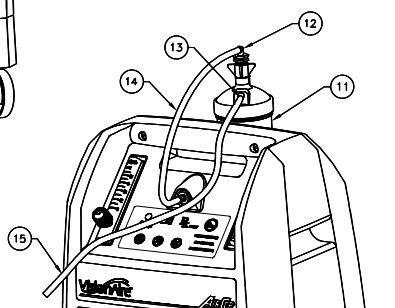

Fig. I.3
I. 3. Humidifier installation (optional) (Fig. I. 3)	2-GB
I. 3. Humidifier installation (optional) (Fig. I. 3)